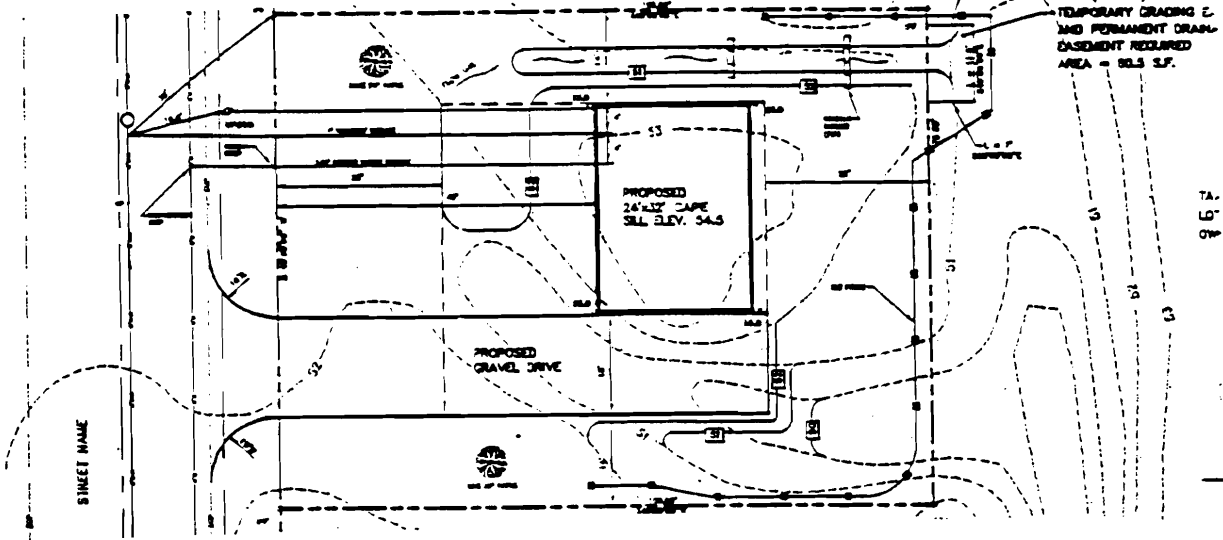

Figure 1. Typical Plot Plan
- A plot or site plan, showing the shape and dimensions of the entire lot, all existing and proposed structures on the lot and the distance that the structures are from all lot lines. For a new dwelling the plan must be prepared by a registered design professional. For dwelling additions, the plan can be prepared by the owner or agent. (See Figure 1)